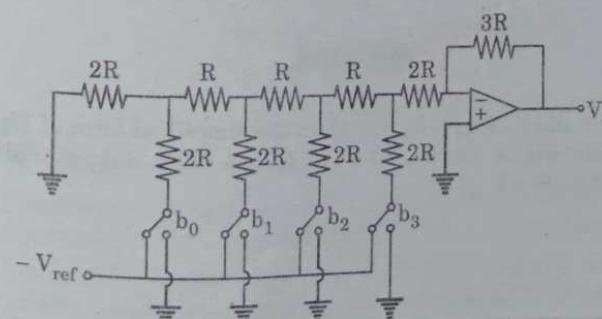
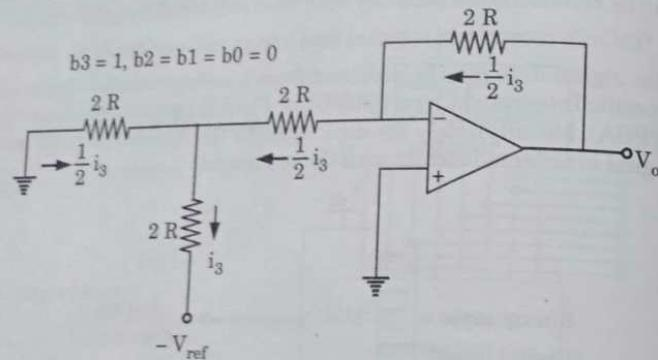

Fig. 4.15.1. 4-bit D/A converter using an R-2R ladder circuit.
Fig. 4.15.2.
3. Fig. 4.15.1 shows the 4-bit R-2R ladder DAC. In order to achieve high-level accuracy, we have chosen the resistor values as  $R$  and  $2R$ .
4. Let the binary value  $b_3 b_2 b_1 b_0$ , if  $b_3 = 1, b_2 = b_1 = b_0 = 0$ , then the simplified form of Fig. 4.15.1 DAC circuit is shown in Fig. 4.15.2. The output voltage is  $V_o = 3R(i_3/2) = V_{ref}/2$ .